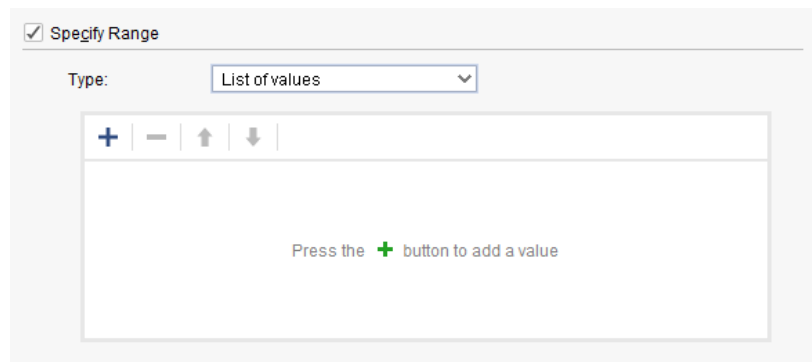

Figure 4-19: List of Values Restriction
- **List of values:** This selection limits the value choices for the parameter in a predefined list. The list box defines the valid list of values for the parameter, as shown in Figure 4-19.